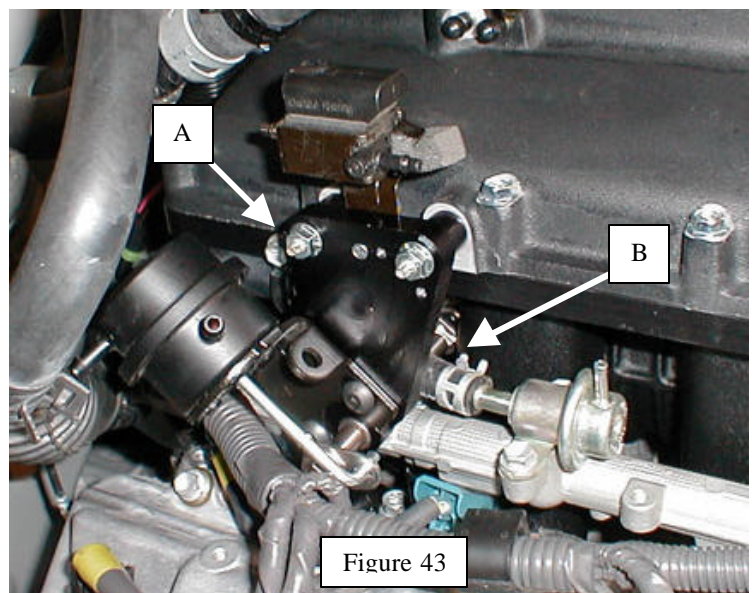

Figure 43
Torque: 10 N-m (89 in.-lbf). **Note: Mount the solenoid valve so that the steel barb points towards the firewall and the foam filter points towards the front of the vehicle. The unit mounts on the supercharger side of the bracket (See Figure 43).**
7. Install supercharger bypass actuator assembly. Use TRD supplied nuts and spacers removed in Step 52. (Arrow A, Figure 43). **Caution: Check that bypass actuator rod does not interfere with OE fuel return hose (Arrow B, Figure 43).** Verify the shaft engagement into the actuator slot.